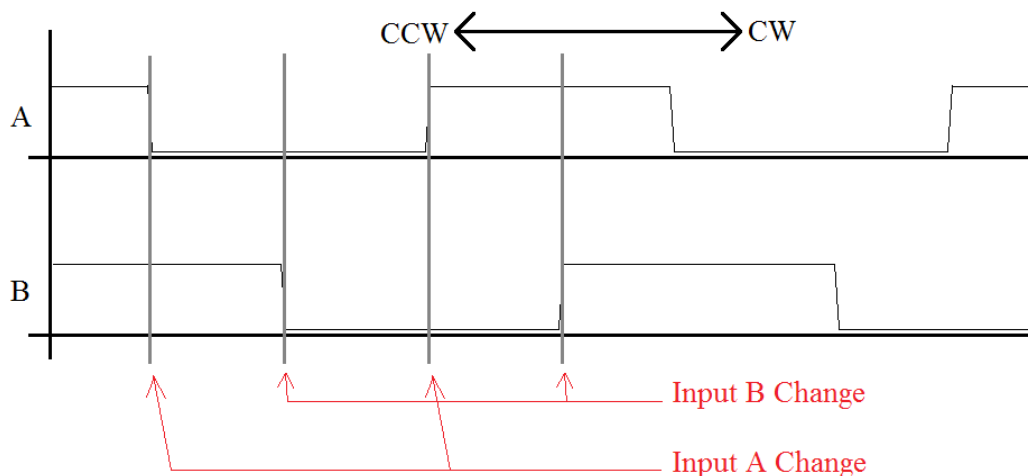

Figure 6-1. Encoder Signal with Transitions Marked.
A shaft encoder uses two signals, also known as channels, to indicate the motion of a shaft as well as its direction. The signals from an encoder are shown in Figure 6-1. In this graph it can be seen that only one of the signals changes at a time. Also when moving in a ClockWise (CW) or CounterClockWise (CCW) direction, the order in which the signals change is different. Note we will arbitrarily think of CW as the positive direction and CCW as the negative direction.